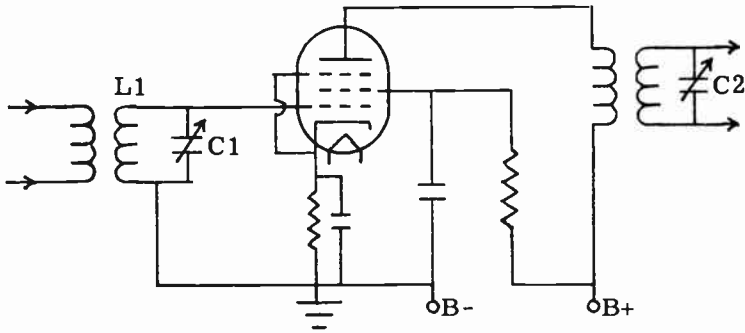

FIG. 15-5. RF STAGE OF AMPLIFICATION.
**THE RF AMPLIFIER.** Fig. 15-5 illustrates an RF stage of amplification. It consists of a tuned circuit (L1, C1) that selects the desired signal, and a tube that amplifies the signal. The important operating characteristics of the amplifier are as follows:
(1) The RF amplifier tube is biased to operate as a Class A voltage amplifier. We do this because a Class A amplifier will amplify the signal without distorting it. It is important not to distort the signal at this point since it contains the audio intelligence.
(2) The tube used in the RF amplifier is generally a pentode because of its low interelectrode capacitances. If a triode, with its high interelectrode capacitances were used, there would be sufficient feedback from plate to grid at radio frequencies to cause the RF amplifier to oscillate. An oscillating amplifier would cause serious distortion, making satisfactory reception